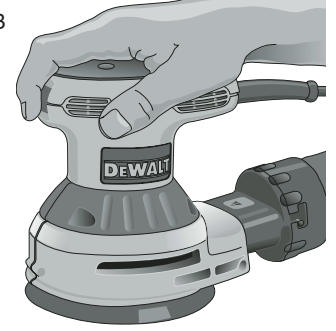

FIG. 6
| C. Sanding pad | F. CFS disc (Fig. 6) |
2. As part of CFS (Controlled Finishing System®), your sander is equipped with a replaceable disc (F) which is located between the pad (C) and the sander body (G). It is designed to increase the dust collection efficiency and control the pad speed while the unit is off the work surface. The disc is designed to be a consumable part and will occasionally need to be replaced. Replacement is necessary when the pad speed increases very dramatically when the unit is lifted from the work surface.
- TO REPLACE YOUR CFS DISC (FIG. 6)**
- b. Remove the pad (C).
- c. Remove worn CFS disc (F).
- e. Align the notches (H) on the CFS disc with the seams in the sander body.